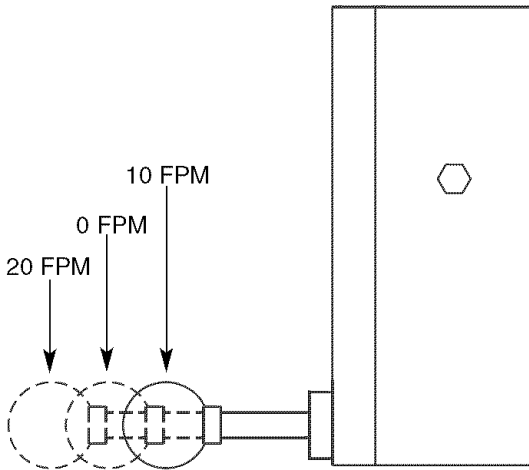

Figure 9 - Feedrate Positions
- There are three positions that the feed rate can be set: 20 feet/minute, 0 feet/minute (neutral) and 10 feet/minute (see Figure 9).